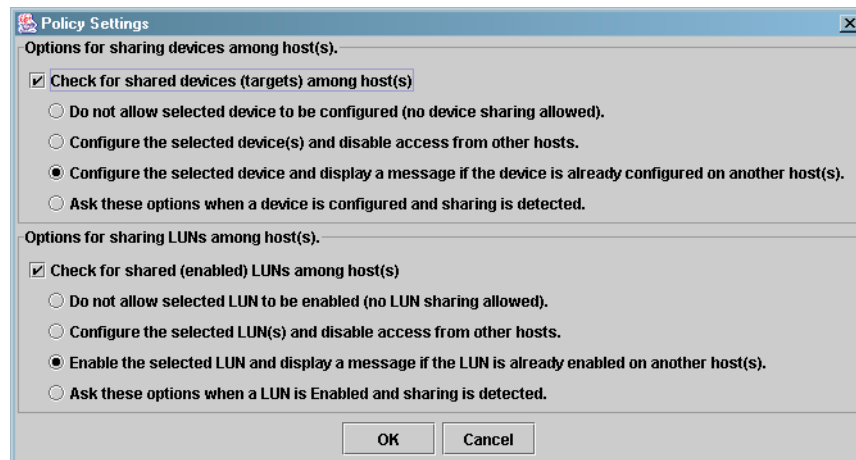

Figure 6-13. Policy Settings Dialog Box
1. On the SANblade Manager main window **View** menu, select **Policies**. The **Policy Settings** dialog box displays (see figure 6-13).